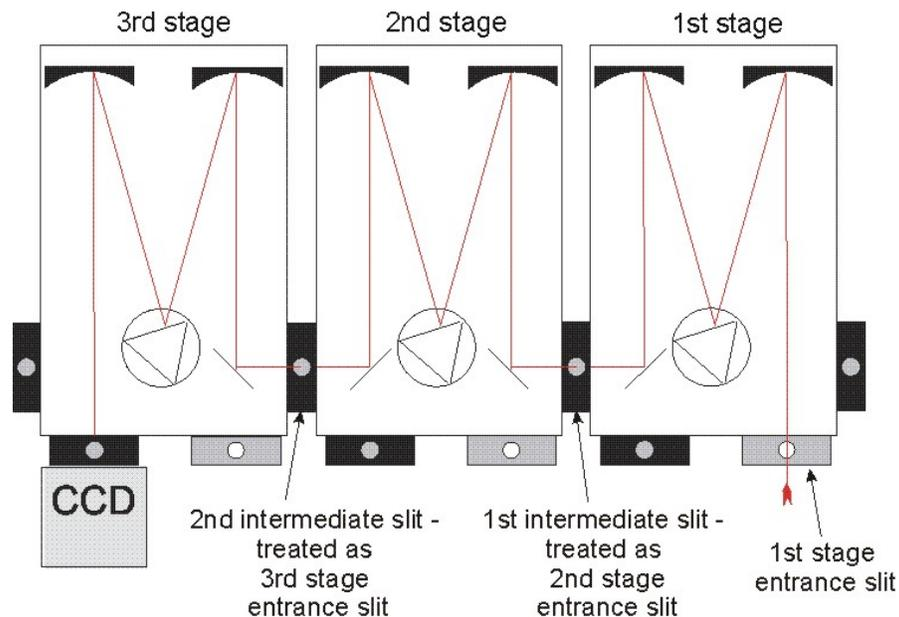

Figure 21. Intermediate Slits treated as Entrance Slits
**Note:** The 1st intermediate slit is treated as the 2nd stage entrance slit and the 2nd intermediate slit is treated as the 3rd stage entrance slit (Figure 21).